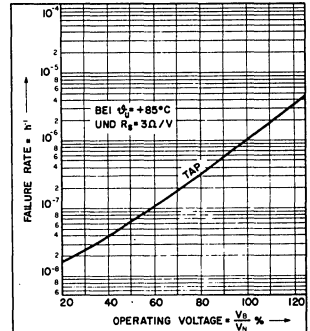

Fig. 12 Reject Rate vs Applied Voltage
This can be compensated by voltage derating. See figures 12, 13, and 14.
The reject rate increases with applied voltage  $V_B$  and ambient temperature  $\vartheta_U$ , and falls with increased circuit resistance  $R_s$ . As a result of comprehensive life-tests the reject rate has been determined as a function of  $V_B$ ,  $\vartheta_U$  and  $R_s$ . The reject rate for catastrophic failures for the particular case can be determined from Fig. 12 to 14 as follows:
1. Determine the reject rate of  $F_R''$  as a function of the applied voltage from Fig. 12 with  $\vartheta_U = +85^\circ\text{C}$  and  $R_s = 3\Omega/V$ .
$$V_B = 50\% \quad F_R'' = 6.2 \cdot 10^{-8} \cdot h^{-1} \quad (\text{from Fig. 12})$$